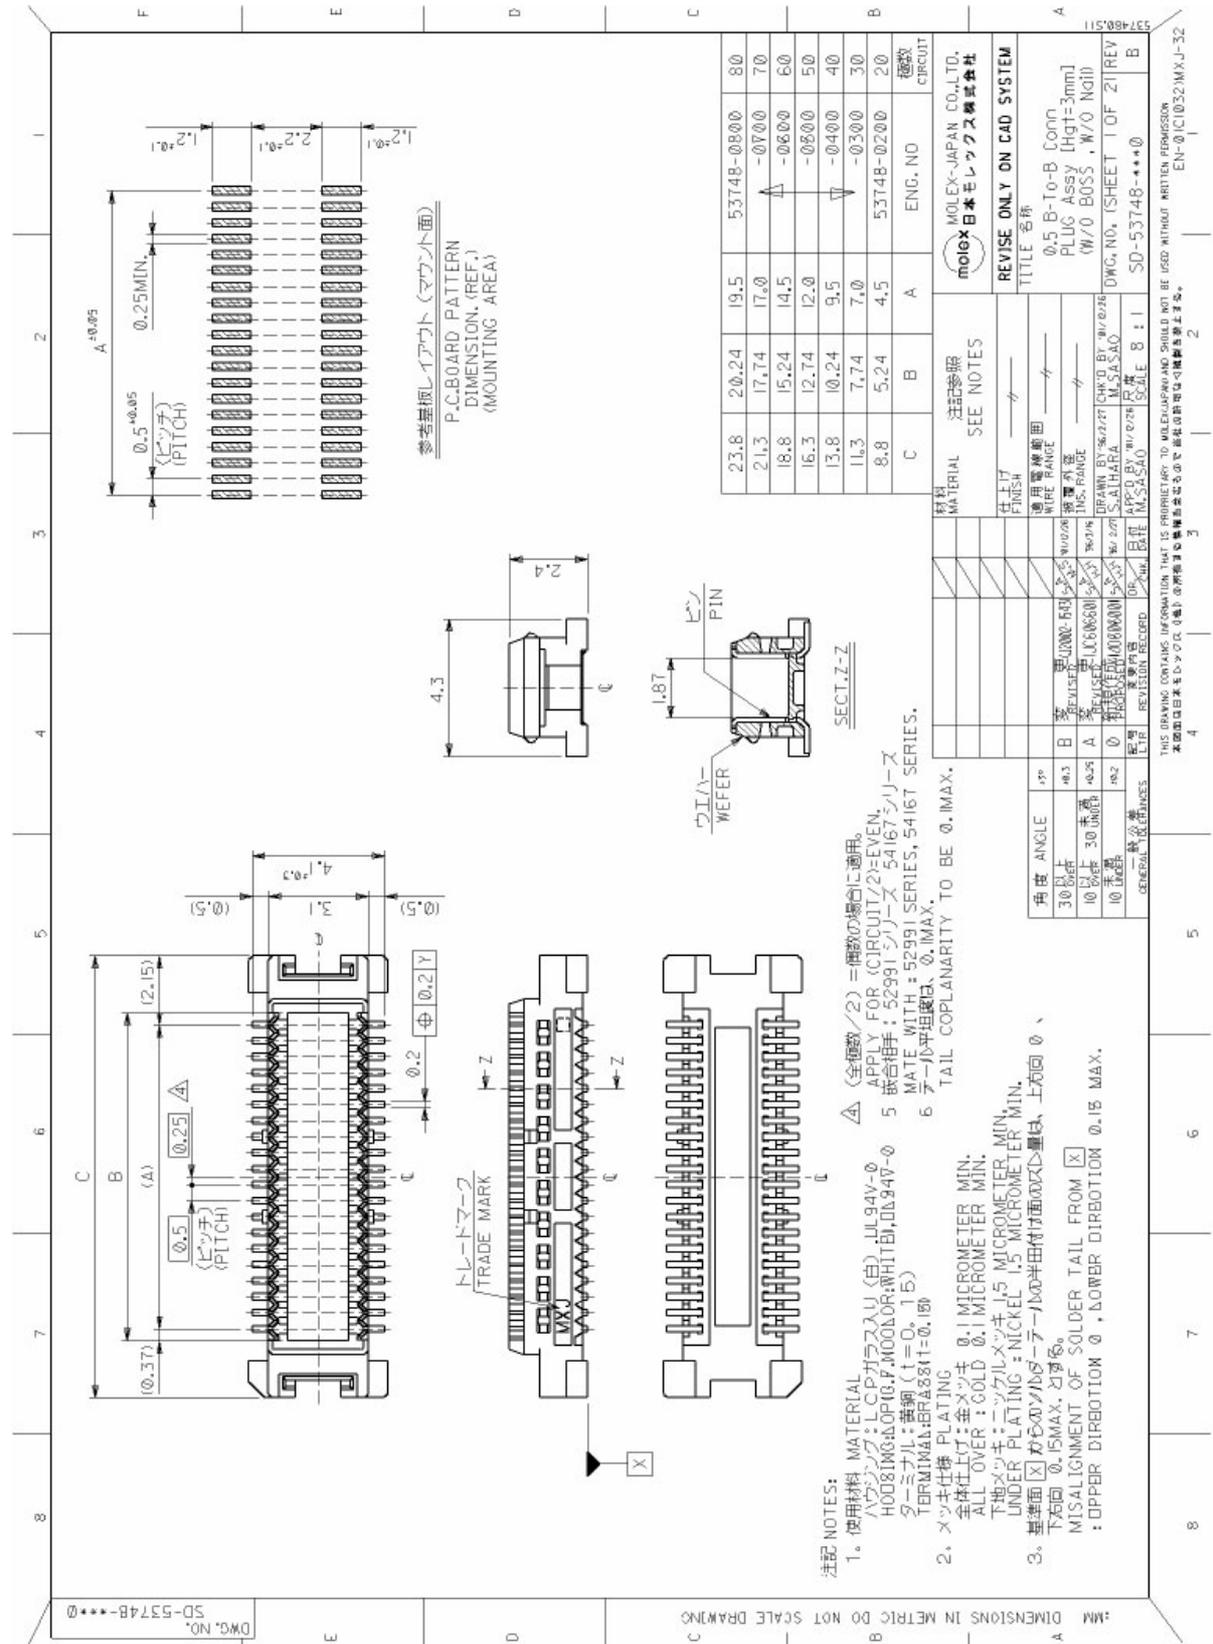

Figure 13: Mating board-to-board connector 53748-0808 on application
- 53748-0808 SlimStack Plug, 3mm stacking height, see Figure 13 for details.